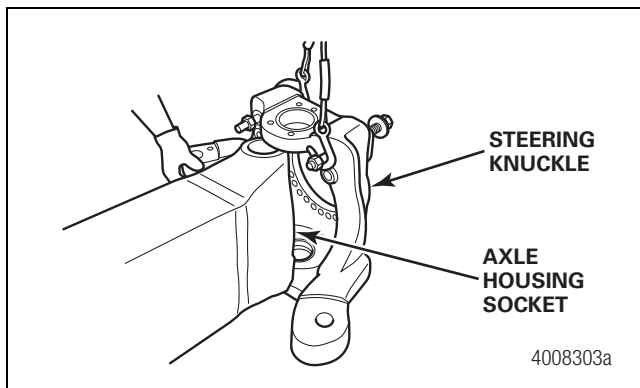

Figure 4.3
8. Use a lifting device to remove the knuckle from axle housing. Figure 4.3.